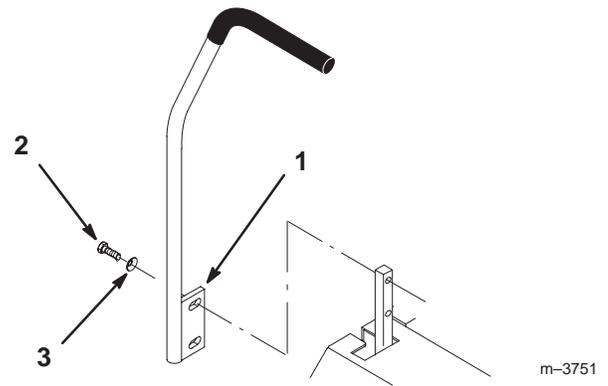

Figure 4
- Remove the (4) 3/8-16 x 1” (26 mm) bolts and (4) 3/8” spring washers which attach the motion control levers to the control arm shafts for shipping (Fig. 4).
- Place the levers (with the mounting plate toward the rear) on the outside of the control arm shaft and secure with (4) 3/8-16 x 1” (26 mm) bolts and (4) 3/8” spring washers (Fig. 4).
- Align the front/rear position of the levers, with each other, in the neutral position. Loosen hardware and adjust by sliding/tilting the lever(s) forward or backward until properly aligned (Fig. 4).